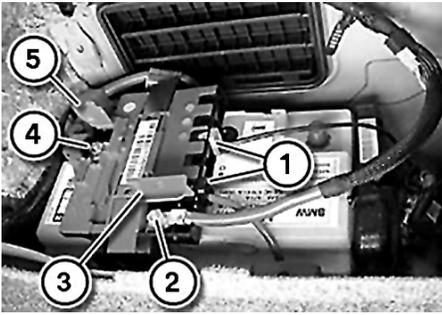

Fig. 3 Distribution box wiring removal
- b. Disconnect connectors (1), **Fig. 3**.
- c. Fold back cover (3), **Fig. 3**.
- d. Remove nut (2) and cable from distribution box, **Fig. 3**.
- e. Fold back cover (5), **Fig. 3**.
- f. Remove nut (4) and cable from distribution box, **Fig. 3**.
- b. Install nut (4) and cable to distribution box, **Fig. 3**.
- c. Fold back cover (5), **Fig. 3**.
- d. Install nut (2) and cable to distribution box, **Fig. 3**.
- e. Fold back cover (3), **Fig. 3**.
- f. Connect connectors (1), **Fig. 3**.